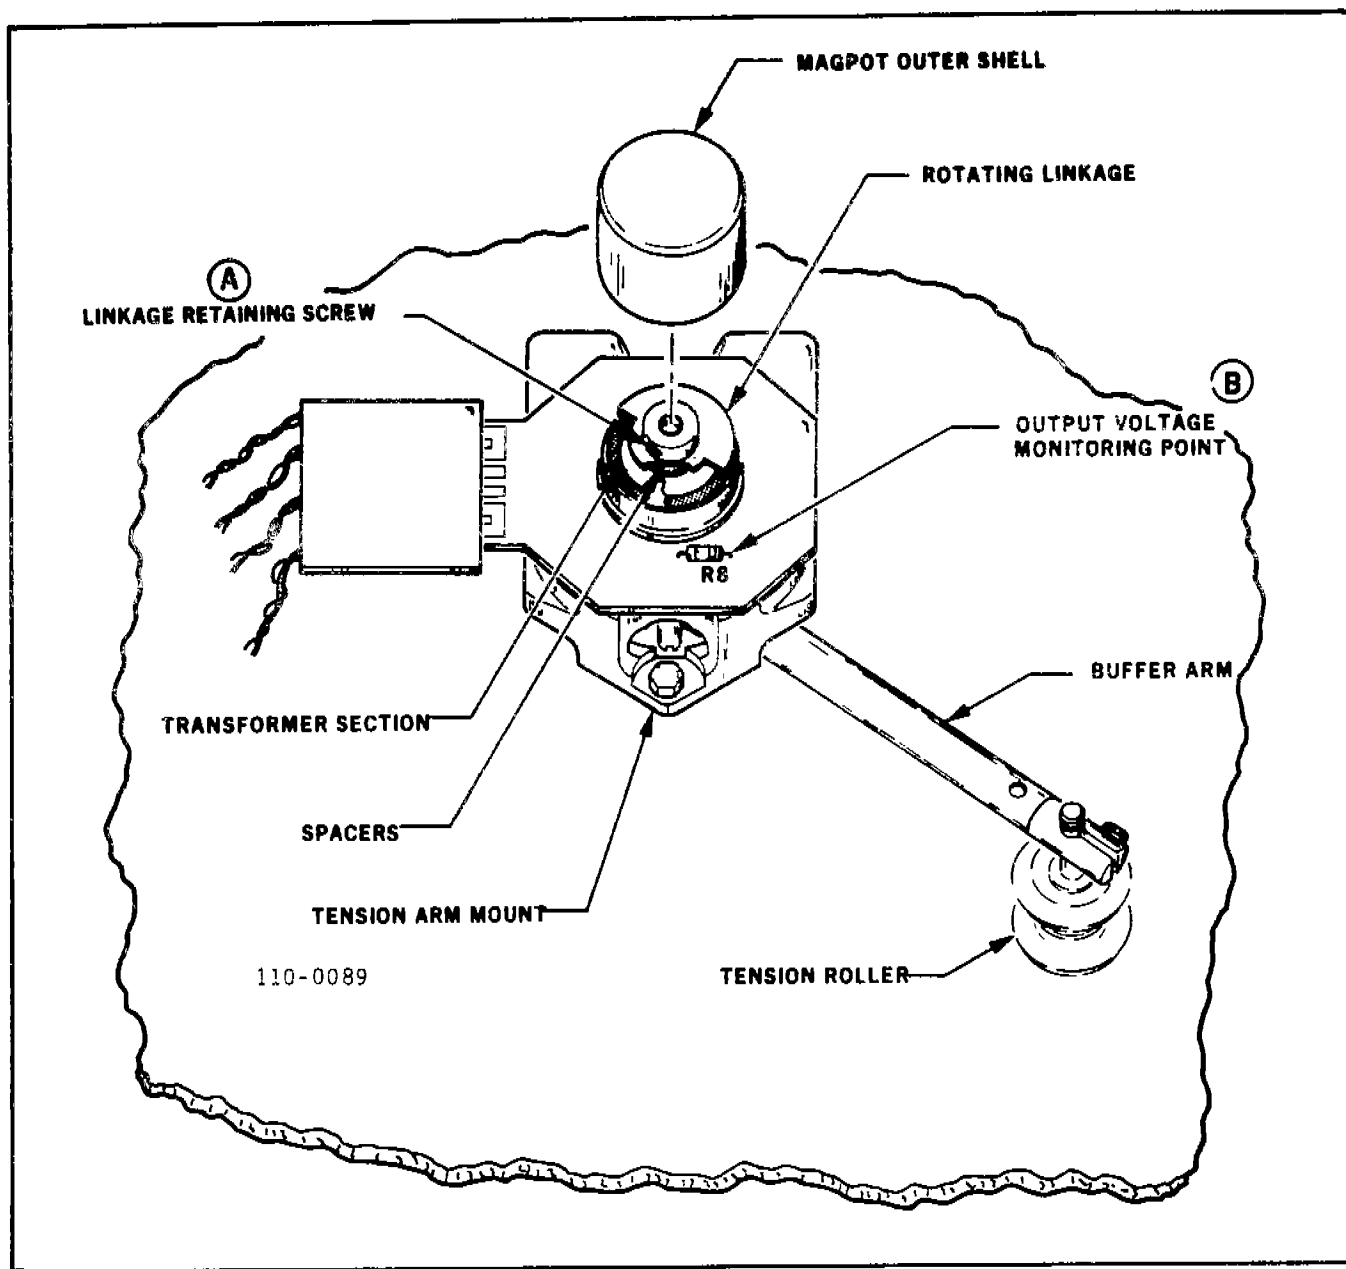

Figure 4-8. Magpot Assembly
4.18.8 MAGPOT REPLACEMENT (refer to Figure 4-8)